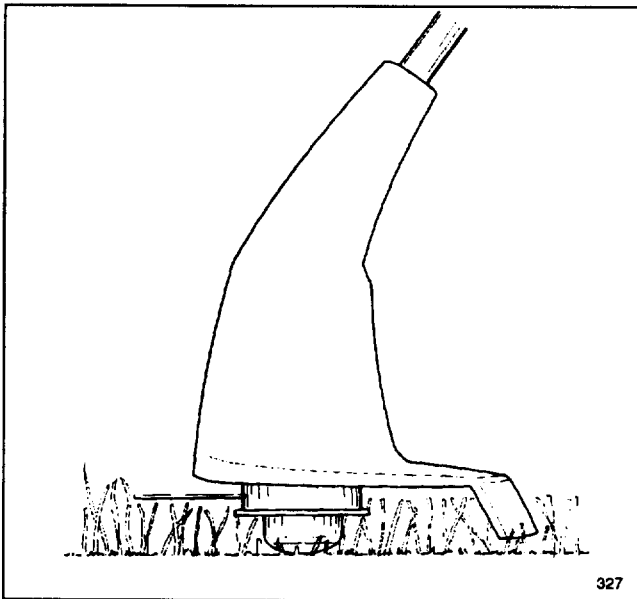

Figure 7
9. Never drag the trimmer spool cap on the ground while trimming (Fig. 7). This causes motor overload and spool cap wear.